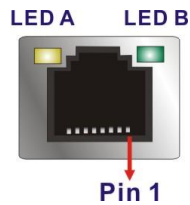

Figure 4-23: LAN Connector
- CN Pinouts:** See **Figure 4-23** and **Table 4-22**